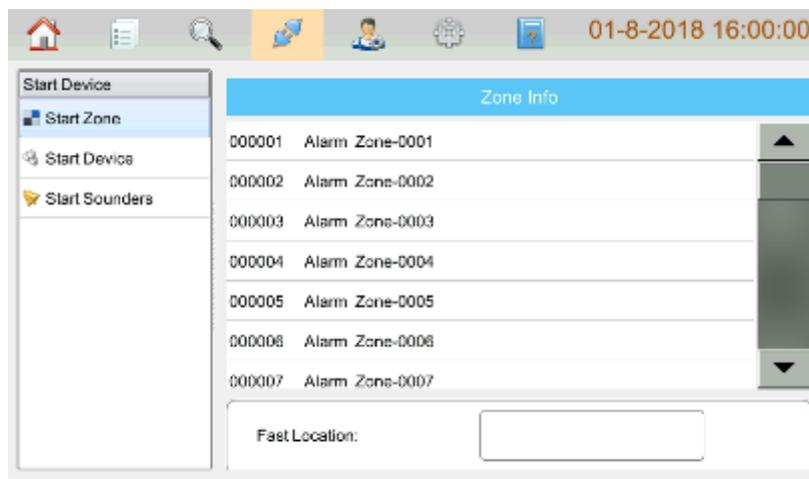

Fig 5.2
- **Start:** clicking this button enters the screen for starting devices as shown below Fig 5.2.